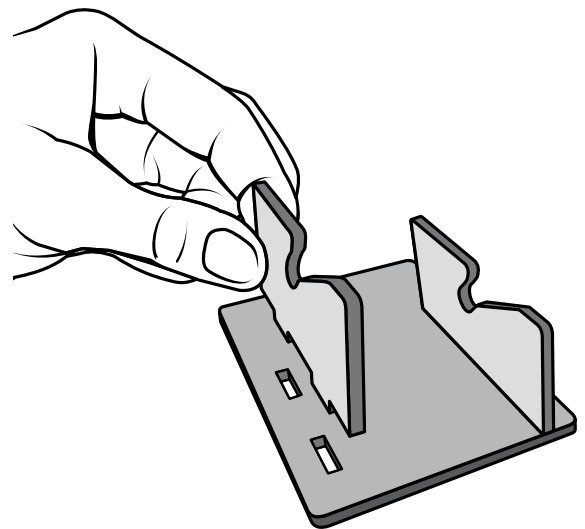

Figure 1
- c. Glue Parts 2 into the holes on the sides of Part 1 as shown in Figure 1. The slot on top of the Part 2 pieces should be facing away from the part number on Part 1.